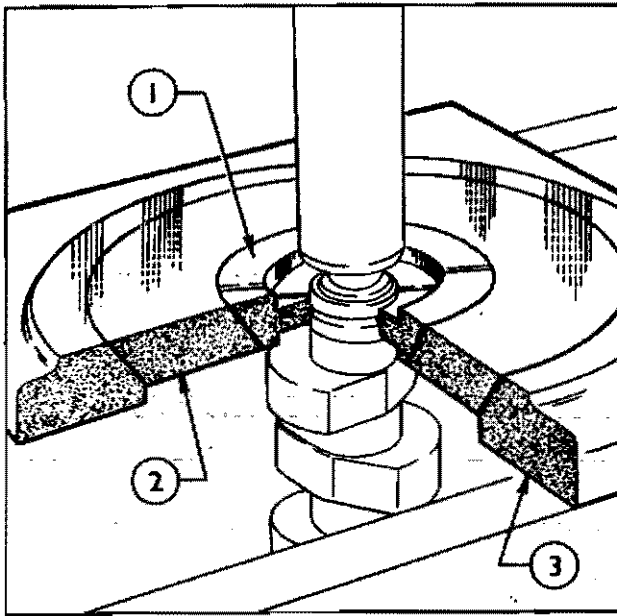

Fig. 23
20. Remove the camshaft bearing inner races using a suitable press, universal taper plate Tool No.370, slave ring Tool No. CT.9056, and adaptors Tool No.CT.6085-1A (see Fig. 23).